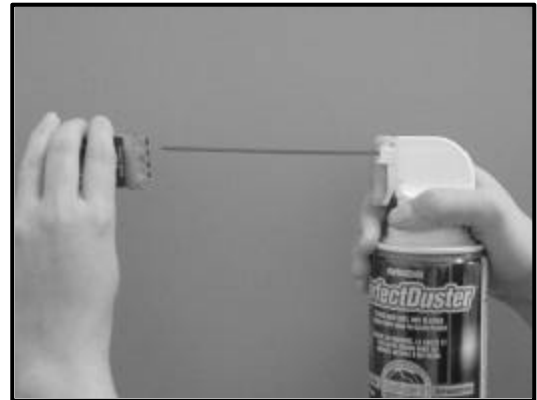

Fig.7 – CDA cleaning (module)
1. With the clean air duster, blow the inner barrel of the Transmitter and Receiver Optical Sub-Assemblies (TOSA & ROSA). This will dislodge loose particles (see *Figure 7*).